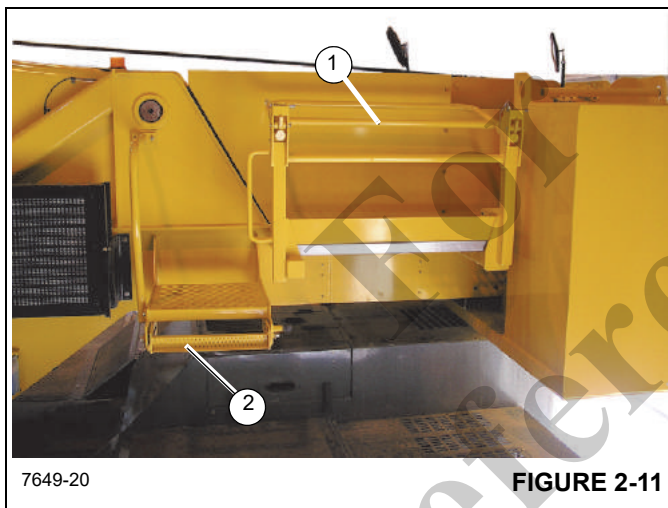

FIGURE 2-11
Ensure that the hoist access platform hand rail (1) Figure 2-11 and step (2) (Fixed counterweight units only) is in the travel configuration. Remove pins from hand rail and rotate it down into the travel position, reinstall pins. Pull the step locking pin out, slide the step in to the travel position and release the lock pin.